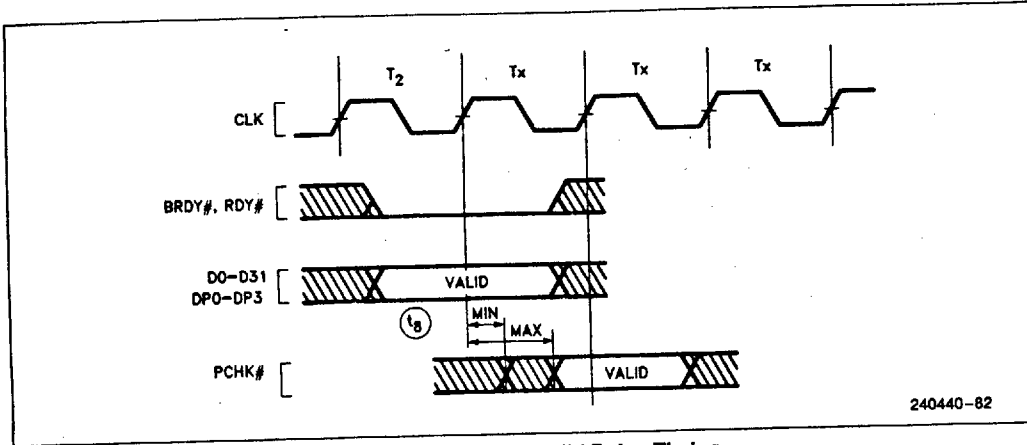

Figure 13.4. PCHK# Valid Delay Timing
**Intel486 CPU Location and Orientation:** The ICD-486 may require lateral clearance. Figure 13.4 shows the clearance requirements of the ICD-486.